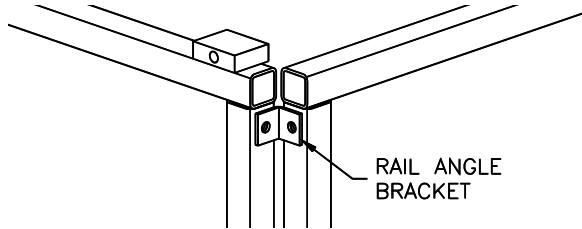

Fig 26 – Platform Rail Corner
- 50) * Install platform front rail (51 3/4") and side rails (61 5/8"). Connect both ends of the front rail to the front of each side rail with a rail angle bracket, **Fig 26**.